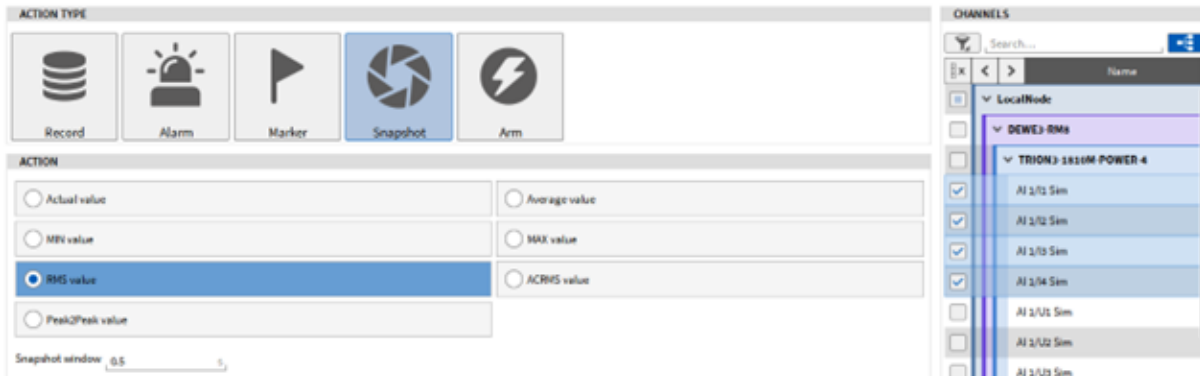

Fig. 9.39: Snapshot Action Type
- To set the Digital Channel to High state, add another Action by pressing the *+Add Action* button, select *Alarm Action Type* and select *Digital out – High on alarm* as Action. The Digital out channel to be set can be selected in the channel list on the right-hand side (see Fig. 9.39). The channel mode of the desired Digital channel must be set to *Digital out* in the Channel List (see Fig. 9.17).